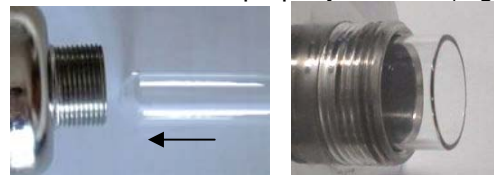

Fig. 4
- insert the domed end of the sealing nut and ensure it is located in its support cup at the closed end of the chamber. There should be 5-15mm sticking out the open end of the chamber and square with the end of the chamber when it is properly located. (Fig. 4)